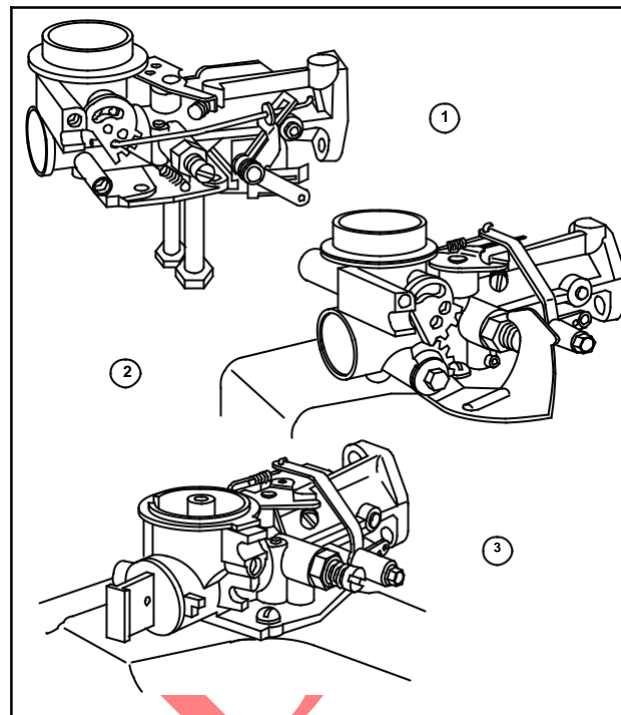

Fig. 59
These Pulsa-Jet carburetors all have a combined idle and main jet adjustment needle, integral fuel pump and have either manual rotary (2) or slide choke in manual (3), remote or Choke-A-Matic (1), Fig. 59.